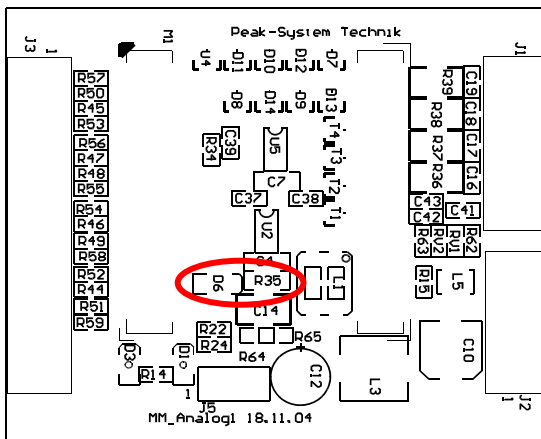

Figure 2: Position D6, R35
1. Equip the unpopulated position D6 (see Figure 2) with a reference diode BZV55C12.
2. Replace the 0-Ohm resistor on position R35 (see Figure 2) with a resistor of 1.6 k Ω .